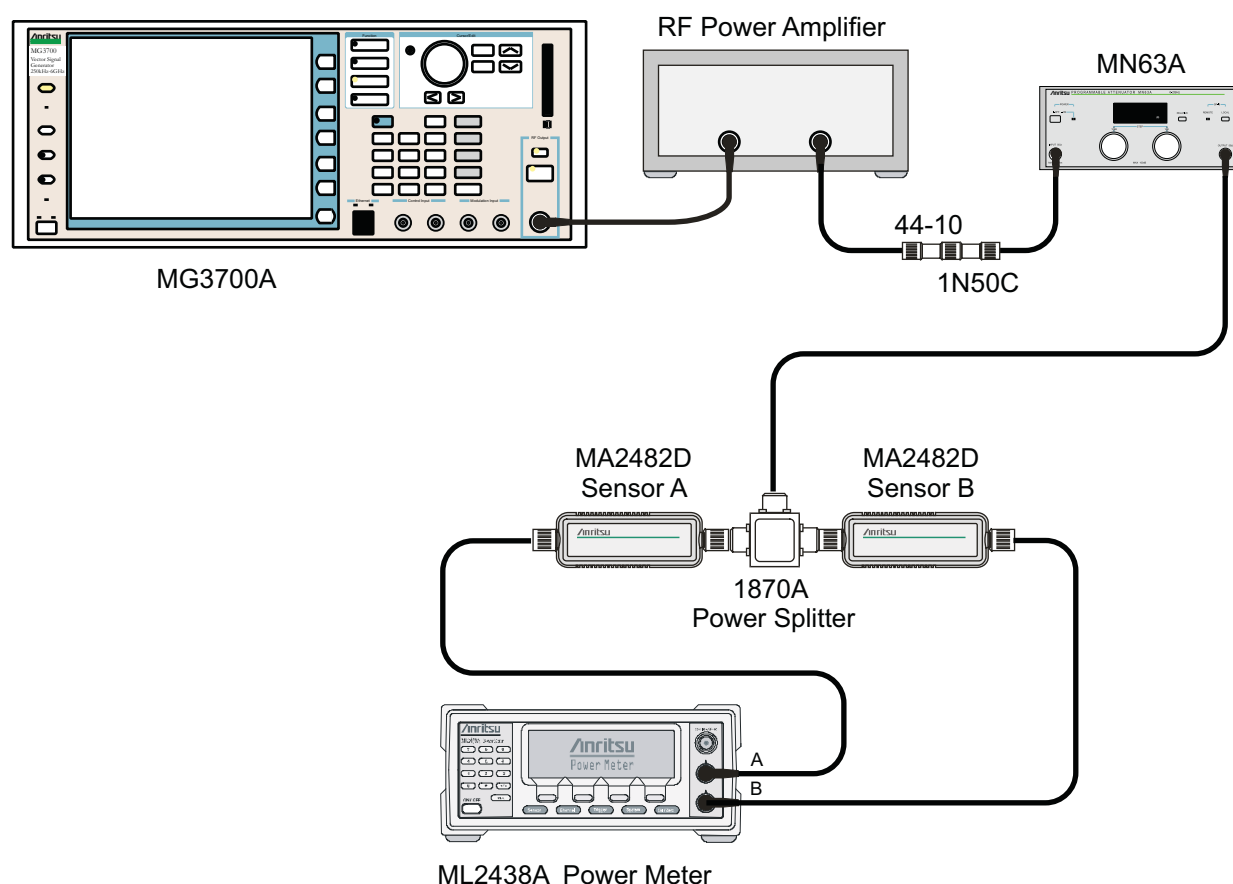

Figure 5-15. Level Accuracy Verification Setup
2. Connect the MG3700A Signal Generator, Power Amplifier with N(f)-to-BNC(m) adapters, RF Limiter, MN63A Programmable Attenuator, Power Divider, Power Meter, and Power Sensors as shown in Figure 5-15
52. Turn Off the power amplifier, disconnect the power splitter from the Cell Master, and reconnect Sensor A to the power splitter as shown in Figure 5-15 on page 5-80.